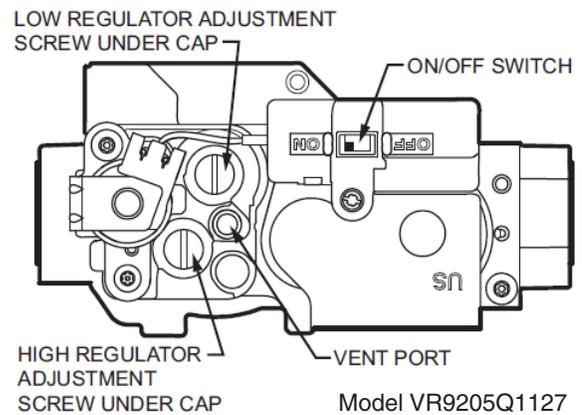

Fig. 5. Conversion kit installation regulator
2. Remove regulator cap screws and pressure regulator adjusting screws from Hi and Lo Regulator Towers. Refer to Fig. 5.